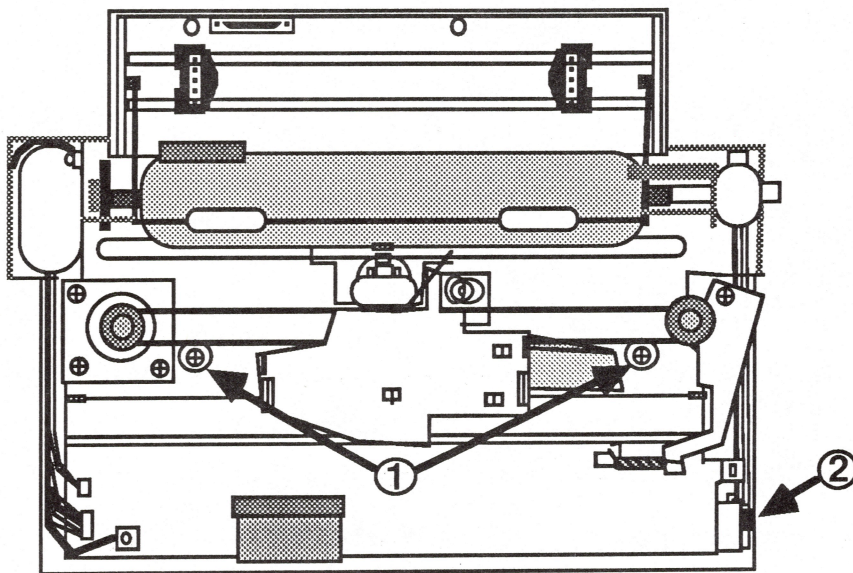

FIGURE 25
8. Remove the two screws shown in Figure 25, #1.
9. Lift the right side of the mechanical assembly and disconnect the two plug connectors (see Figure 25, #2).